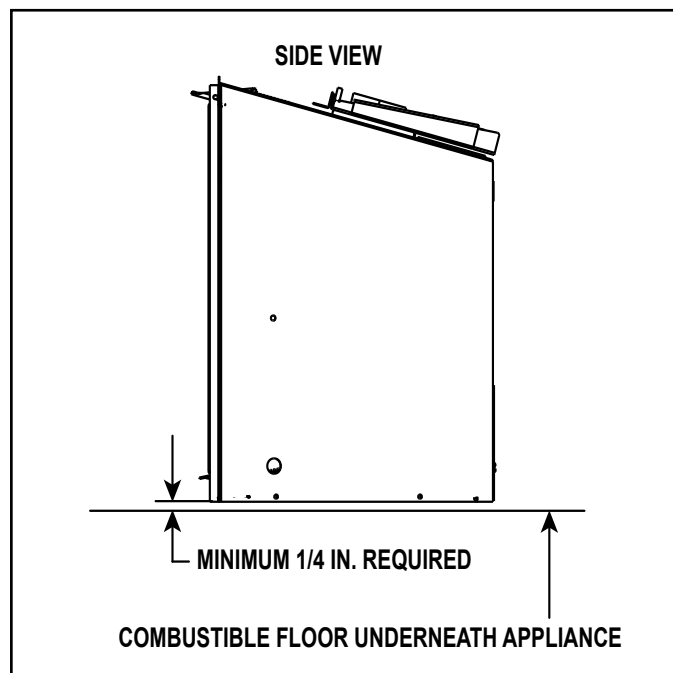

Figure 3.18 Solid Fuel Floor Clearance
- A minimum 1/4 inch gap from the bottom of the appliance to the metal floor of the solid fuel firebox is **REQUIRED**. See side view in Figure 3.18.
- Combustible flooring underneath the appliance is acceptable with a 1/4 inch gap. See Figure 3.18.